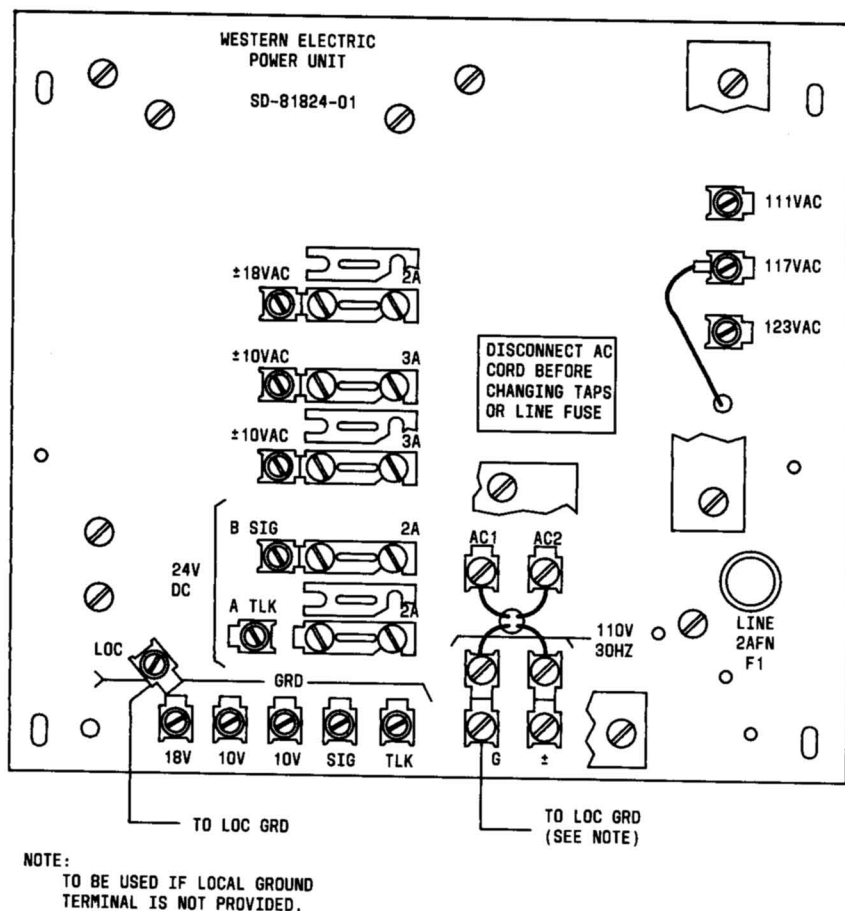

Fig. 5—Wiring Connection for 20A2 Power Unit
- Rerate 117A frequency generator to manufactured discontinued (MD) and add the 117B frequency generator
- Update Fig. 5
### **4. CONNECTIONS (Fig. 5)**
- 4.05** Connect LOC GRD as shown in Fig. 5.
the station ground wiring leads should be connected to their **designated** ground terminals (Fig. 5).